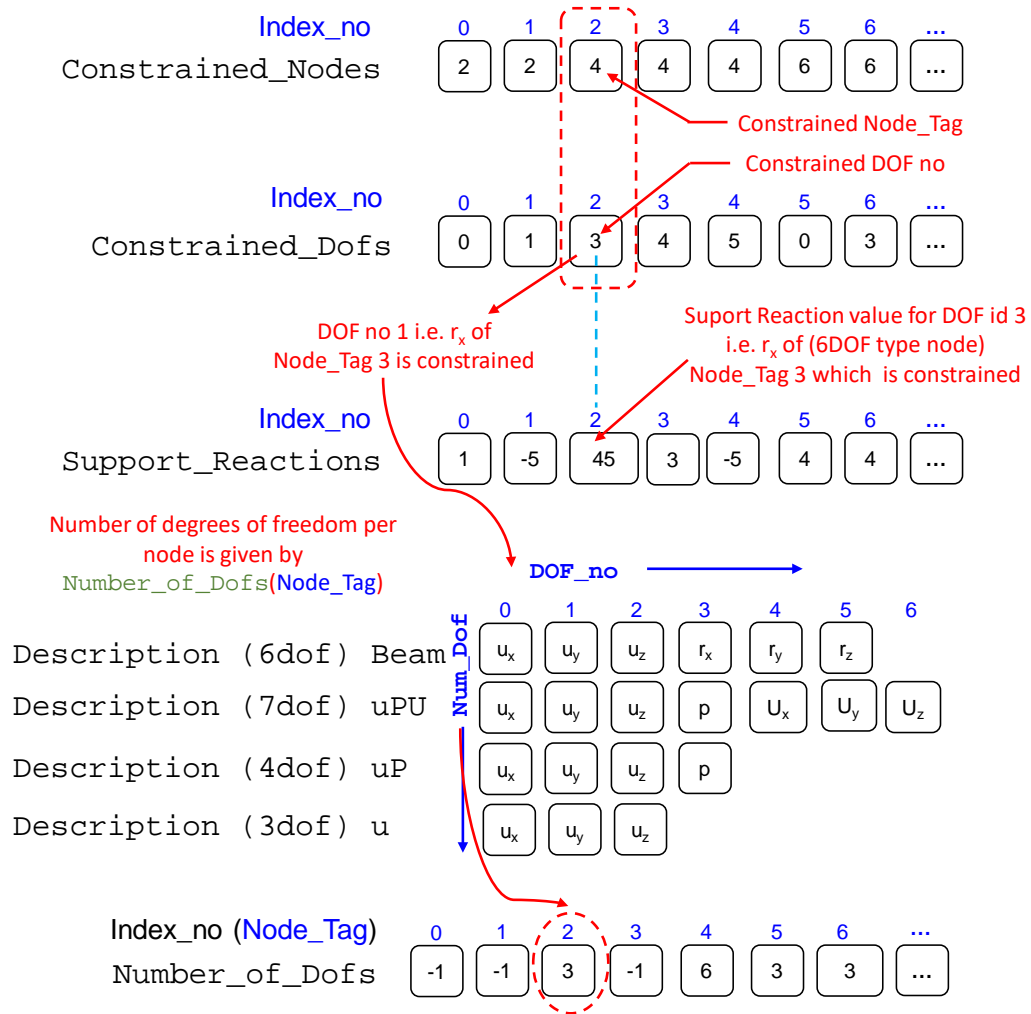

Figure 1.8: Arrays describing constrained nodes and reaction information in Nodes group directory of HDF5 file.
`Constrained_Nodes` array contains a list of node tags for each dof on which fixities were applied. Figure 1.8 shows how to read `Constrained_Nodes`. In the given example Listing 1.1, dof u_x and u_y of node tag 2 is fixed. Similarly, for node tag 4 dofs r_x r_y and r_z are fixed. That's why in the `Constrained_Nodes` array contains node tags 2,2,4,4,4 and so on multiple times for each dof of the corresponding node tag fixed.
`Constrained_DOFs` array contains a list of dofs of the corresponding node tag on which fixities were applied. Figure 1.8 shows how to read `Constrained_DOFs`. In the given example Listing 1.1, dof u_x (0) and u_y (1) of node tag 2 is fixed. Similarly, for node tag 4 dofs r_x (3) r_y (4) and r_z (5) are fixed. Figure 1.8 also shows the DOF if numbering for different dof types i.e. for 3dof, 4dof, 6dof and 7dof nodes.
`Support_Reactions` contains a (float) array of reaction forces for the constrained degree of freedoms (DOFs). Figure 1.8 shows how to read `Constrained_DOFs`. In the given example Listing 1.1, dof u_x (0) and u_y (1) of node tag 2 has support reactions 1N and -5N respectively. Similarly, for node tag 4 dofs r_x (3) r_y (4) and r_z (5) have reactions 45, 3 and -5 $N - m$ respectively. The reaction forces for displacement dofs (u_x, u_y, u_z) are forces in units of N , for rotational dofs (r_x, r_y, r_z) are moments in units of $N - m$ and for pressure dof (p) is pascal (Pa). Section 1.6 describes the output definitions for nodes with different dof-types.
The rows of the Generalized_Displacements array contain the results for each DOF of the current node. For a 3-DOF node these will be displacement in X , Y , and Z (u_x , u_y , and u_z) respectively. For higher number-of-dof nodes the first three components are the same but the remaining ones are going to depend on the connecting elements. For example, 6-DOF nodes might carry information on nodal rotations (beams and shells) or might be fluid displacements in case the elements connecting are u-U coupled fluid-porous-solid elements as shown in Figure 1.8. Section 1.6 describes the output definitions for nodes with different dof-types.